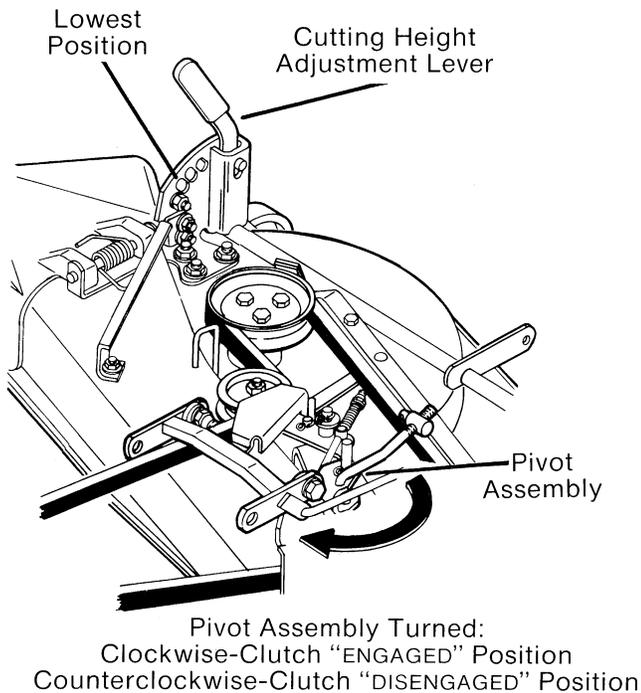
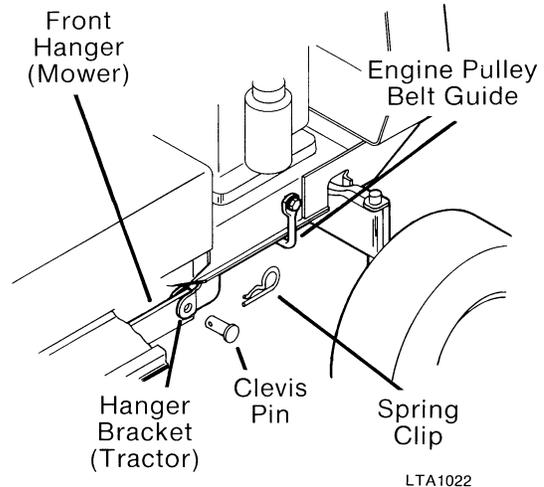

FIG. 2
FIG. 3
- B. Turn pivot assembly clockwise as far as it will go, as shown by the arrow in (Fig. 2).
- C. Move cutting height adjustment lever to the **lowest** cutting position. (Fig. 2)
- E. Move mower until holes in front hanger assembly of mower (Fig. 2) are directly under holes in hanger brackets (Fig. 3) on tractor frame.
- J. Using attachment lift lever, raise the front of the mower deck, lining up holes in front hanger brackets on tractor frame. (Fig. 3)
- K. Insert clevis pin through holes **from the outside**, as shown in (Fig. 3) on both sides of the tractor and secure each clevis pin with a spring clip.
M. Be sure cutting height adjustment lever is still in the **lowest** cutting height position. (Fig. 2)
- B. Move cutting height adjustment lever to the **lowest** cutting position. (Fig. 2)
- F. Lift front edge of deck slightly and remove the two clevis pins and spring clips holding front hanger to tractor hanger brackets. (Fig. 3)